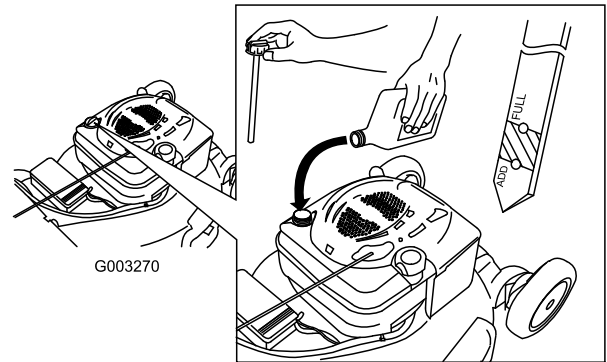

Figure 12
1. Remove the dipstick, wipe it clean, and fully install the dipstick (Figure 12).
2. Remove the dipstick and check the oil level (Figure 12). If the oil level is below the Add mark on the dipstick, **slowly** pour oil into the oil fill tube to raise the oil level to the Full mark on the dipstick. **Do not overfill.** (Max. fill: 20 oz. (0.59 l), type: SAE 30 detergent oil with an API service classification of SF, SG, SH, SJ, SL, or higher.)